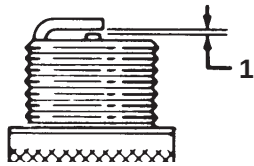

Figure 38
6. Set the gap between the electrodes on the spark plug at 0.030 in. (0.76 mm) as shown in Figure 38.